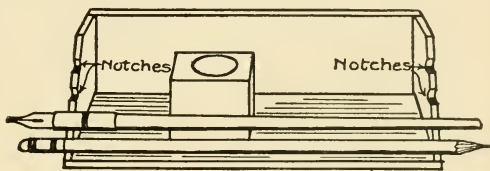

FIG. 56. — Ink-stand and Pen-tray.
**An Ink-stand and Pen-tray**, suitable for your desk, can be made out of a cigar-box, as shown in Fig. 56. Slope the edges with your jack-knife and cut several notches in them for pens and pencils to fit in. The wood should then be sand-papered and oiled.